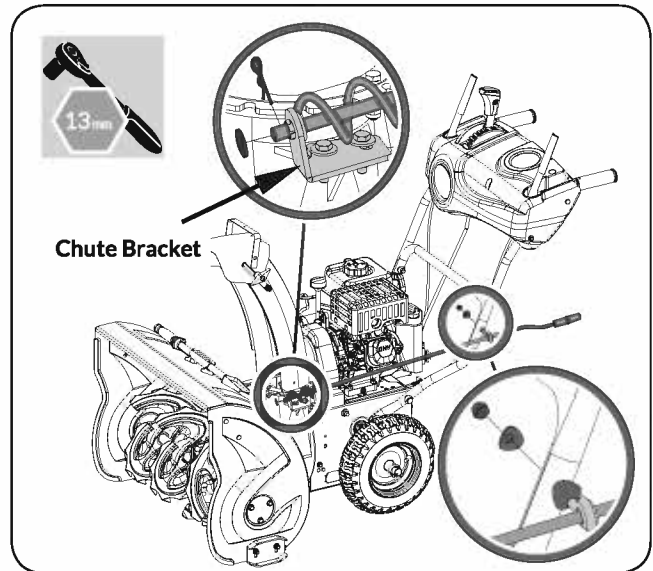

Figure 5a
- Secure the spiral end on the chute bracket by sliding on the flat washer and clevis pin. (See **Figure 5a**)